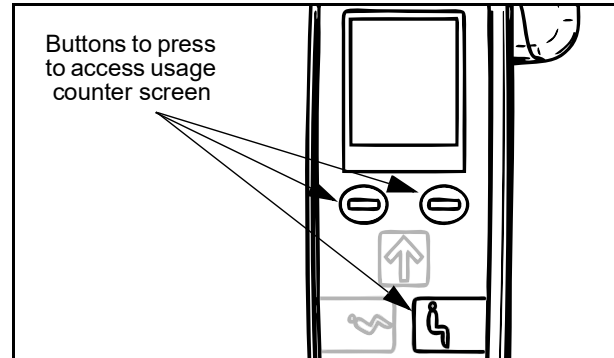

Fig. 2
2. With the handset, push down simultaneously on both buttons just below the display, as well as the DPS “sit up” button (see Fig. 2). While keeping the buttons pressed, turn the unit on with the power button and hold the buttons down for three additional seconds or until you hear a series of three beeps.